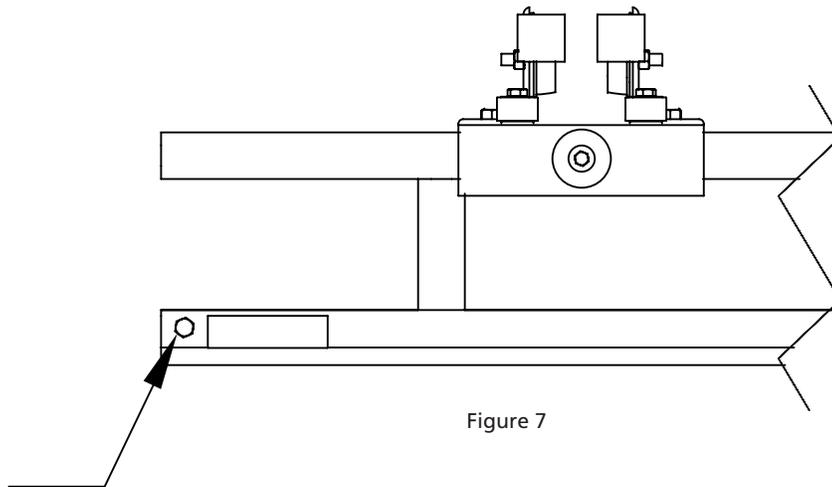

Figure 7
1. Insert the Anchor Trolley into the end of the bridge and move the trolley past the hole shown in **Figure 7**.
3. Insert a bolt through the hole in **Figure 7** making sure that it going through the rubber sleeve.